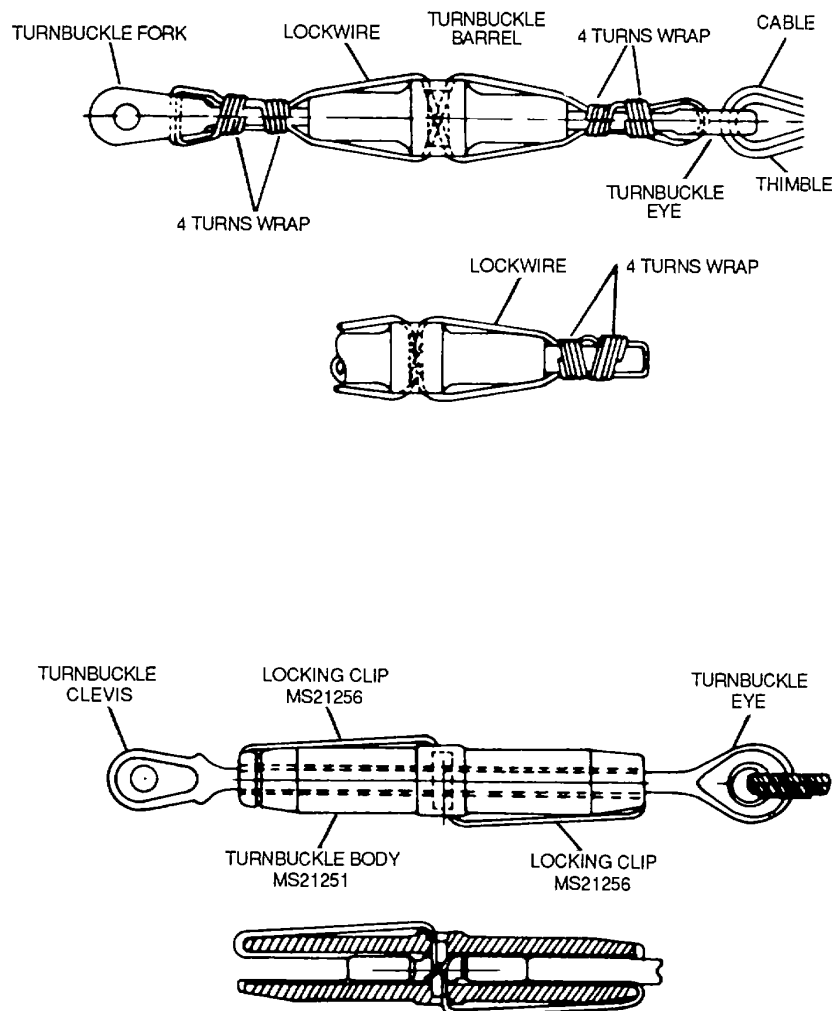

Figure 2-80. Typical Turnbuckle Assemblies
(1) Use a 0.020-inch diameter copper wire when emergency devices such as canopies, exits, and the like require servicing.
(2) Use a 0.020-inch diameter copper wire to secure nonstructural parts such as emergency valves, oxygen regulators, and the like.
(3) Secure first aid kits in accordance with TM 1-1500-204-23-1.
(4) Secure items requiring seal wire to ensure completeness of contents or to determine when container has been used with 0.020-inch diameter copper wire. Seal with a lead seal.
f. Lockwiring Turnbuckles. The standard procedure for securing turnbuckles is shown in figure 2-80. Employ this procedure when lockwire replacement is wire required on turnbuckles secured by other methods. Use wire sizes specified as follows: 0.032-inch diameter on assemblies where cable diameter is 1/16-inch, 0.041-inch diameter wire on assemblies where cable diameter is 3/32-, 1/8- or 3/16-inch, and 0.047-inch diameter wire on assemblies where cable diameter is greater than 3/16-inch.